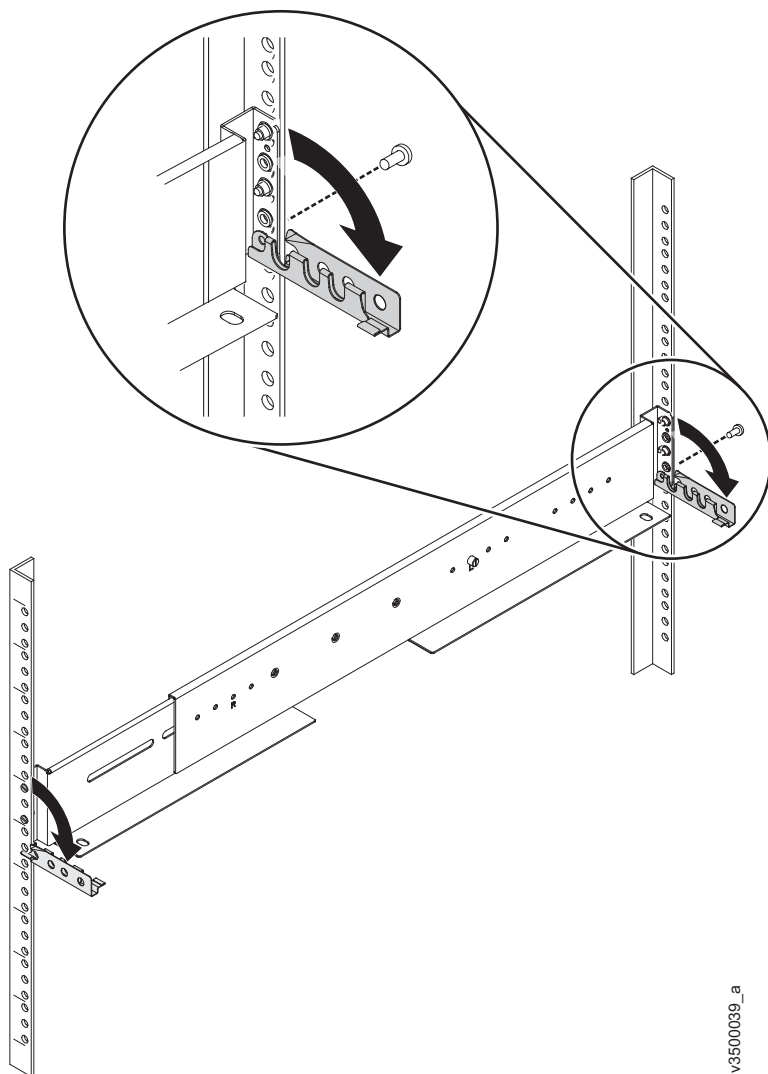

Figure 111. Opening rear hinge bracket of mounting rail
9. At the rear of the rack, remove the securing M5 screw from the bottom hole of the rear bracket of the rail, then open the rear hinge bracket (Figure 111 on page 365).